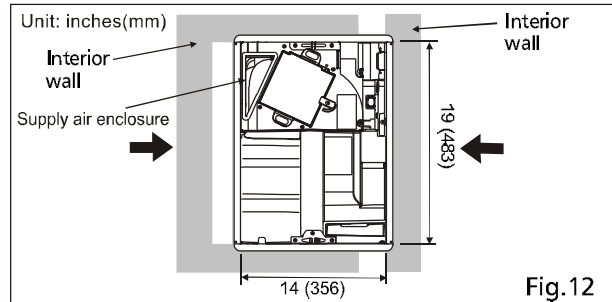

Fig.12
7. Finish the interior wall work. Edge of interior drywall or other wall covering must be behind the flange on the ERV housing. (Fig.12)